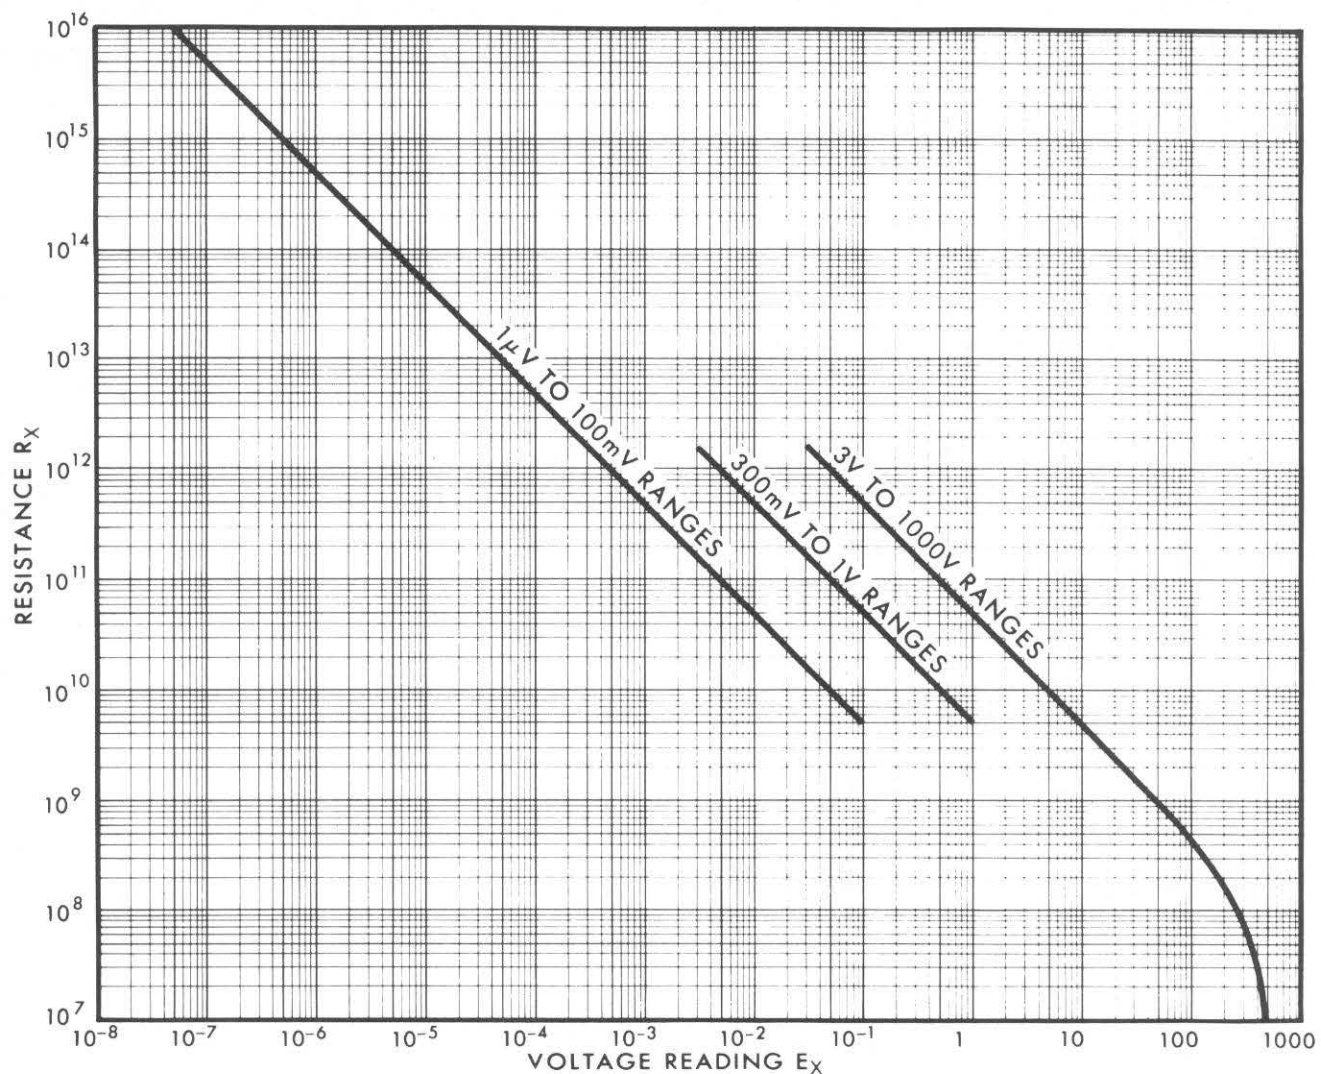

Figure 2-7. Voltage to Resistance Conversion Chart
3. Set generator OUTPUT switch either to + or - position and adjust POWER LIMIT control for a detector reading of 500 volts. (Other voltages may be used, but the conversion chart, Figure 2-7, is intended for use with a 500-volt setting.)
6. Use the conversion chart, Figure 2-7, to convert the voltage reading to the resistance. If a voltage other than 500 volts was used in Step 3, use the following conversion formula: